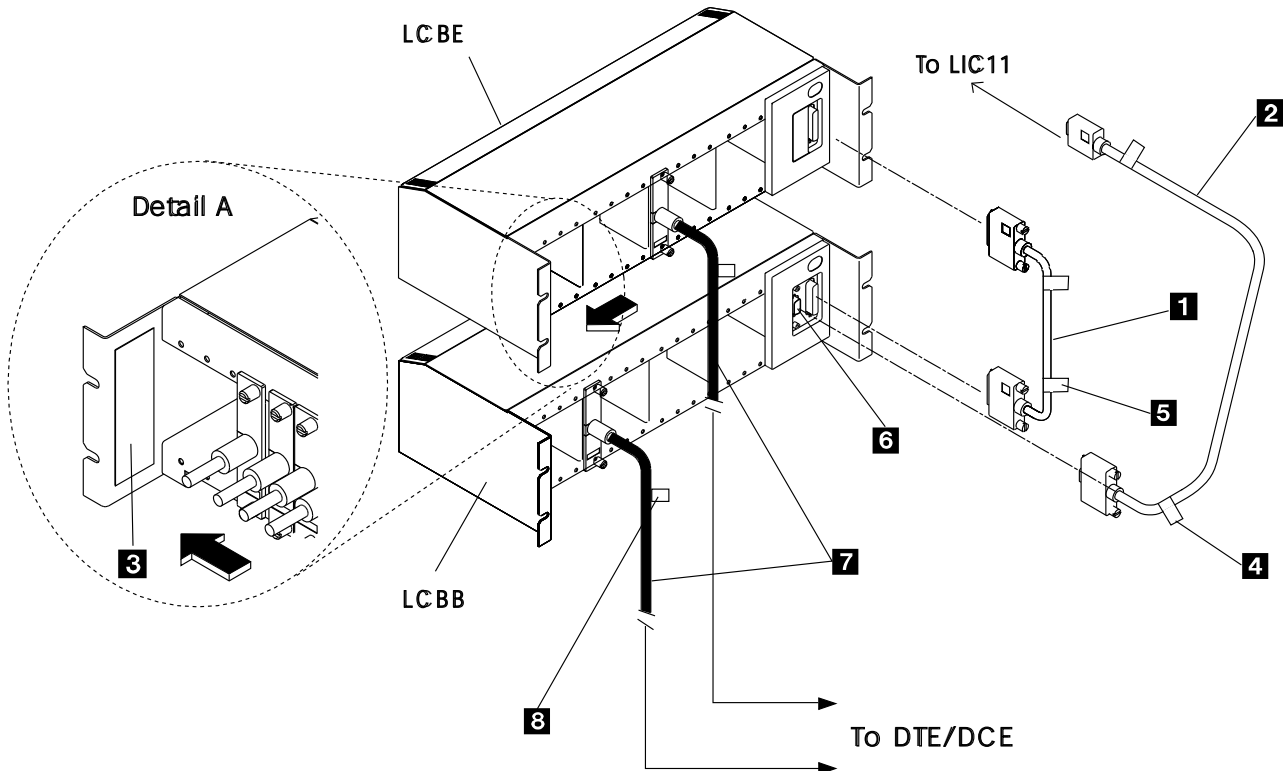

Figure 4-7. LCBB and LCBE Connection
2. ____ Start **installing** the LCBs **from the bottom** of the rack. The LCBE is always installed on top of its associated LCBB (see Figure 4-7).
5. ____ **Stick** the label on the LCB (see detail A **3** in Figure 4-7).
6. ____ If you have installed one LCBB and one LCBE, **install** cable **1** (PN 58G5700) between the LCBB and the LCBE. This cable is part of the LCBE shipping group (see cable **1** in Figure 4-7 on page 4-8).
Install the LIC11-to-LCBB cables (see cable **2** in Figure 4-7 on page 4-8) as follows: